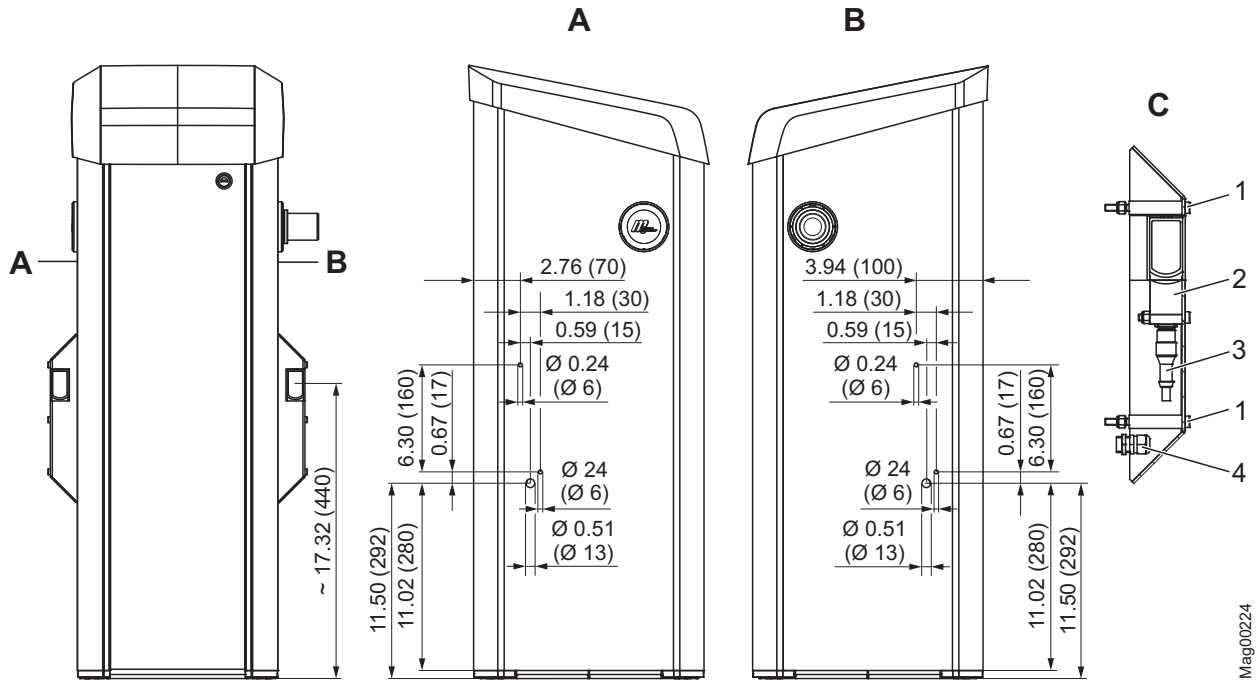

Fig. 22: Assemble the transmitter's light barrier housing on the barrier housing
1. Drill holes for the light barrier housing according to Fig. 22.